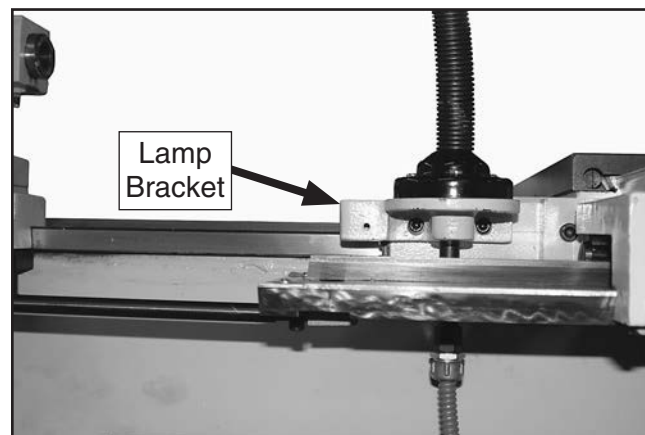

Figure 27. Lamp assembly reattached to saddle.
46. Reconnect the wires to the lamp terminal bar, re-attach the lamp base to the lamp bracket, then re-attach the bracket to the saddle using the (2) M6-1 x 10 cap screws removed in **Step 10**, as shown in **Figure 27**.